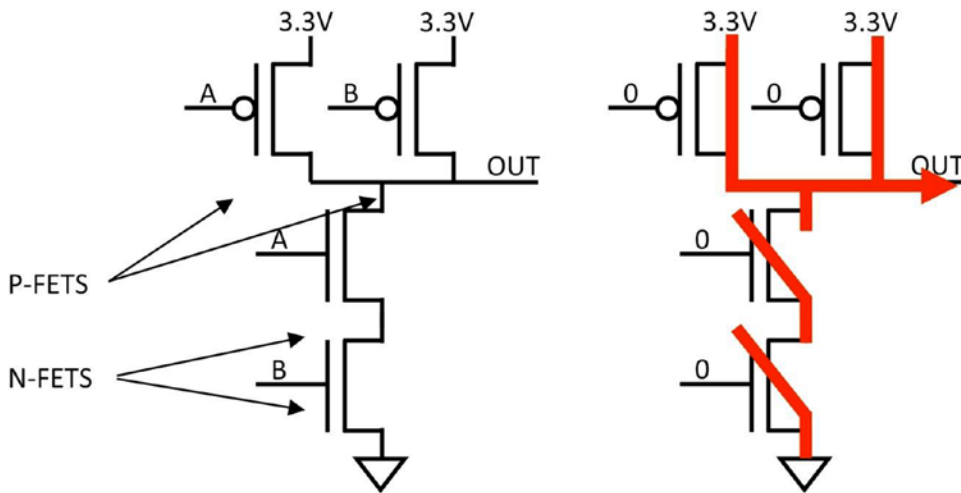

Figure 5-2. NAND Gate circuit
When you download the bit file to the FPGA chip, the bit file tells the FPGA how to set up all these MOSFETs in the FPGA so they deliver the required output. One example of how they work is in a NAND gate. A NAND gate performs the not-AND operation. Figure 5-2 is the circuit diagram for a NAND gate using two P-FETs and two N-FETs.
Sometimes, N-FETS and P-FETs are shown without the arrows but with a circle on the gate to represent a P-FET. In Figure 5-2, you can see that if A and B are low (0), the two P-FETs on the top will be ON and the two N-FETs on the bottom will be OFF, such that 3.3V will be connected to output which is logical high (1). Since the P-FETs are in parallel, if A or B are low (0), 3.3V will be connected and ground will be disconnected. So this acts as a NAND gate logic element: low (Ground) is connected to output if and only if both A and B are high, another combination of AB input will connect high (3.3V) to output